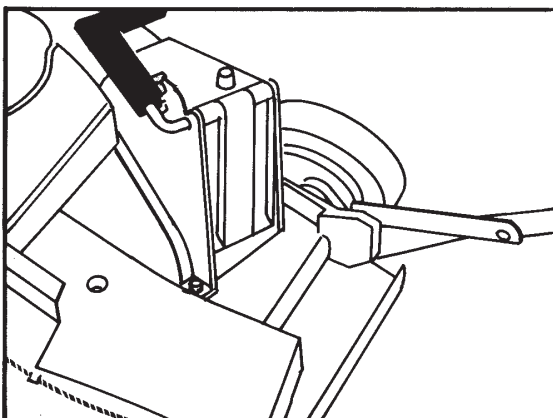

Figure 1
2. Chute door handle must be fully forward and lever released into latch. The chute door is now closed (Fig. 1).